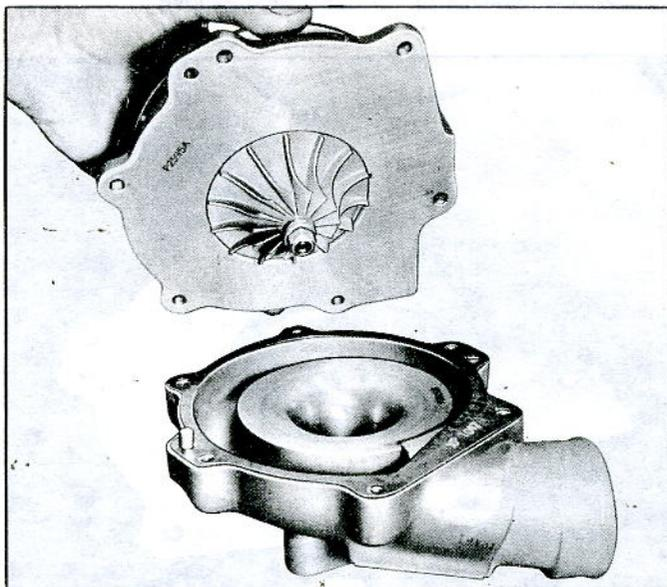

Fig. 39—Removing Compressor Housing
- Remove the six bolts that secure the compressor housing to the bearing housing, then remove the compressor housing and gasket (fig. 39).